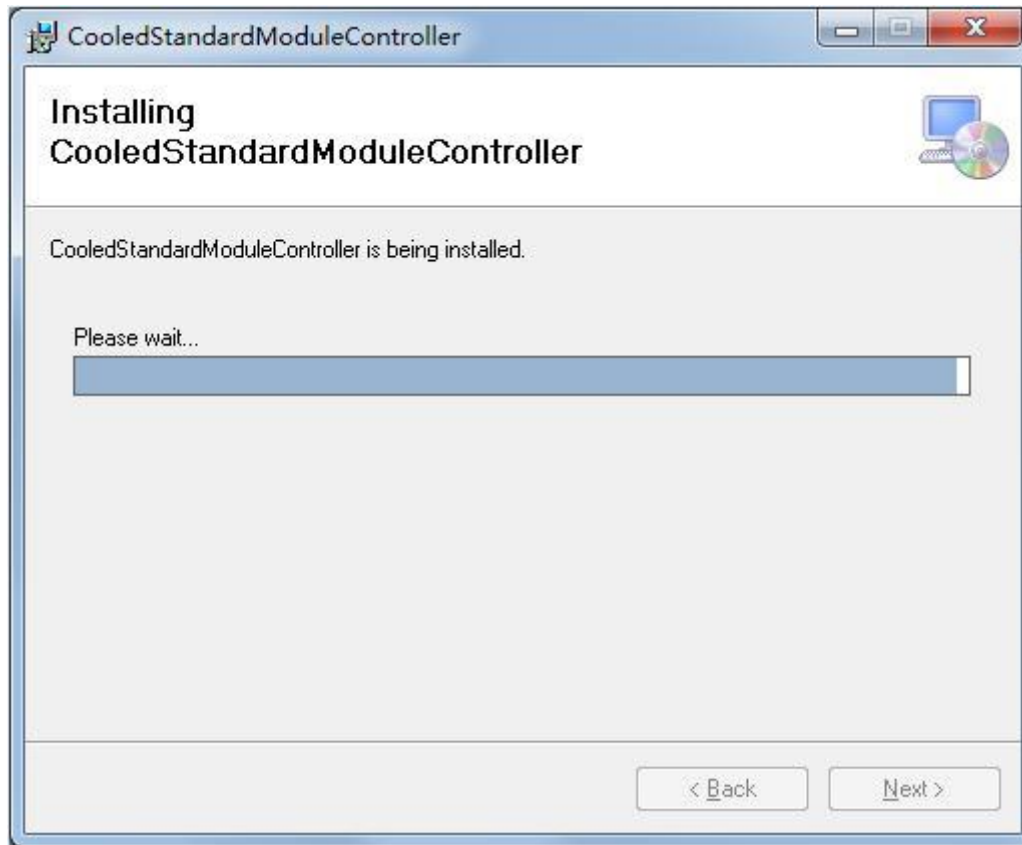

Figure 3-4 Software installation screen 4
- 4) During installation, the installation progress interface will appear, please wait for the installation to complete, as shown in Figure 3-4.